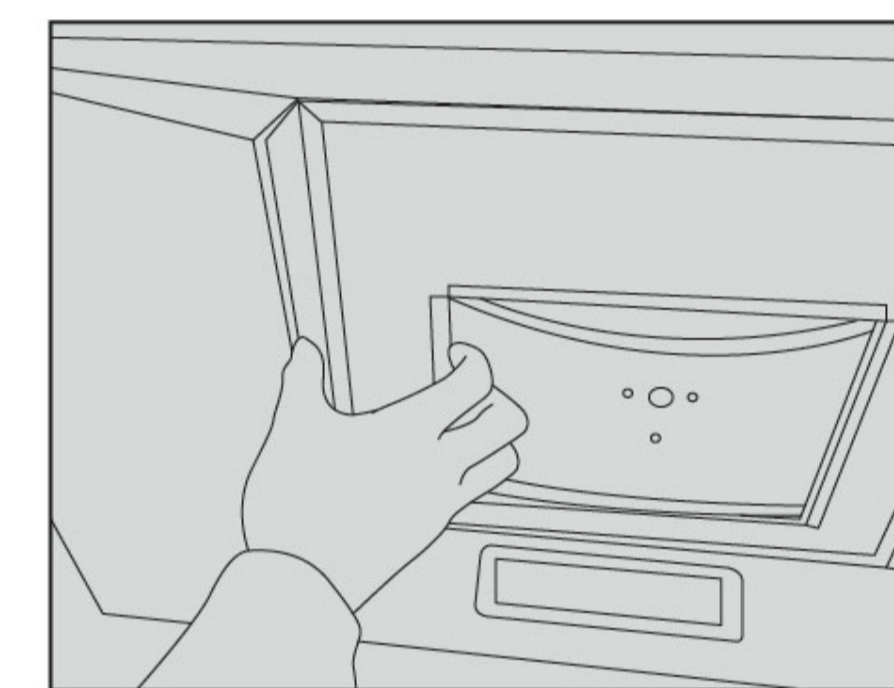
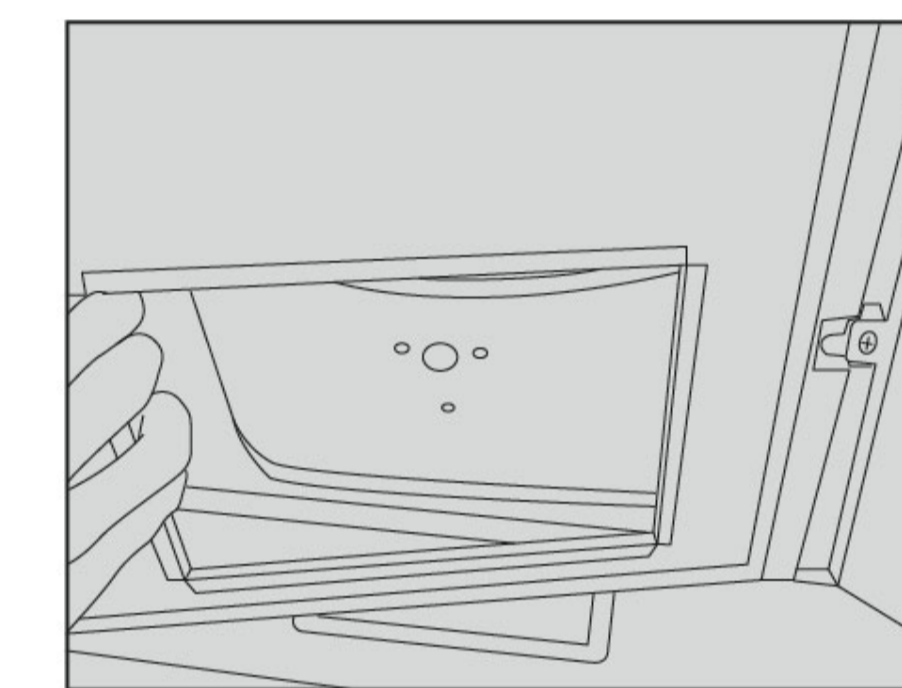

Fig.6
Fig.7
2. Take down the plain net component according to Figure 6 and Figure 7;
- b. Take down the plain net component according to Figure 6 and Figure 7;